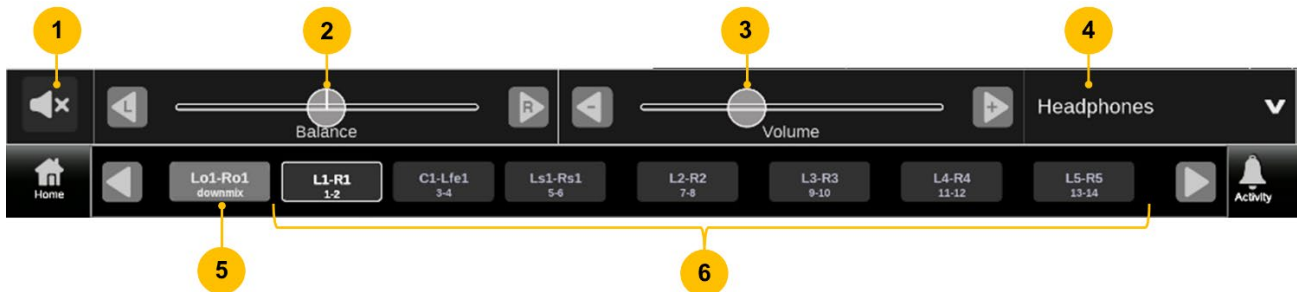

Figure 92: Mute, balance, volume, device selection, downmix, and other source controls
6. Select the **Volume** icon (). The downmix button is visible (see Figure 92).